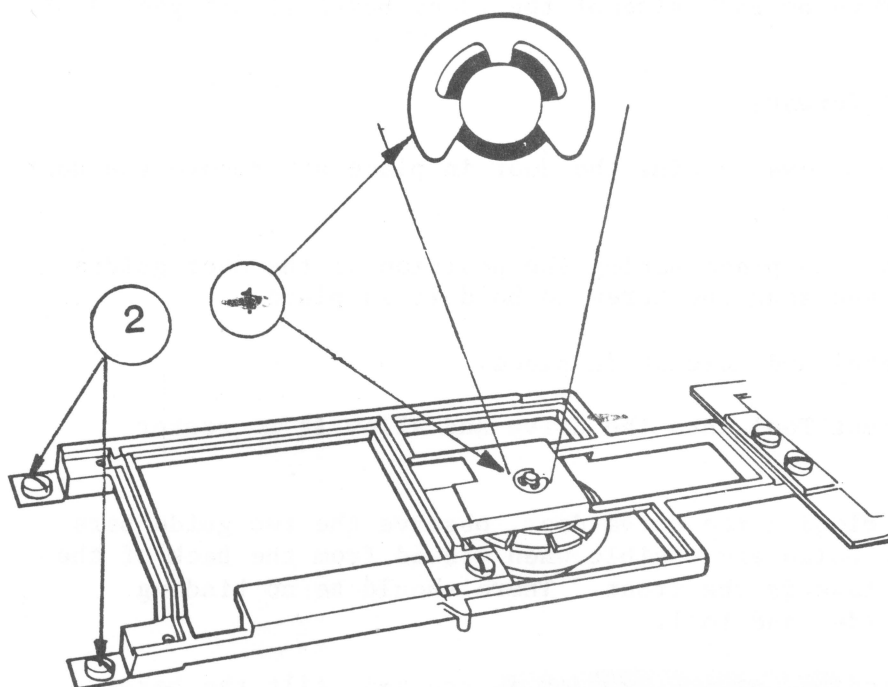

FIGURE 8
2. Remove the two screws at the rear of the assembly (Figure 8,#2) that hold the bracket in place and remove it.
3. With a screwdriver pry the retaining clip (Figure 8) from the shaft holding the collet.
7. Set the bracket into position (Figure 8), making sure the two plastic protrusions on the top of the door slide into the guides on the bezel.
8. Push down on the collet hub to make sure it is centered, then secure the two screws to hold the bracket in place (Figure 8,#2).